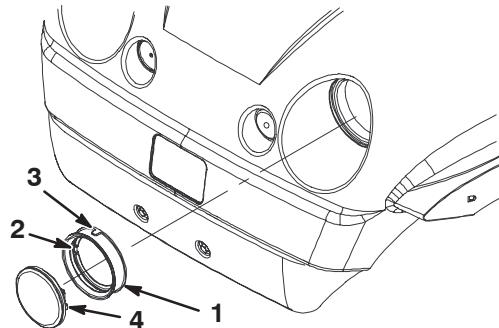

Figure 45
- Remove the rubber seal from around the headlight (Fig. 45). Discard the headlight.
- Align the notch on the inside of the seal with the notch on the new headlight (Fig. 45). Slide the seal onto the headlight until the seal is firmly in place.